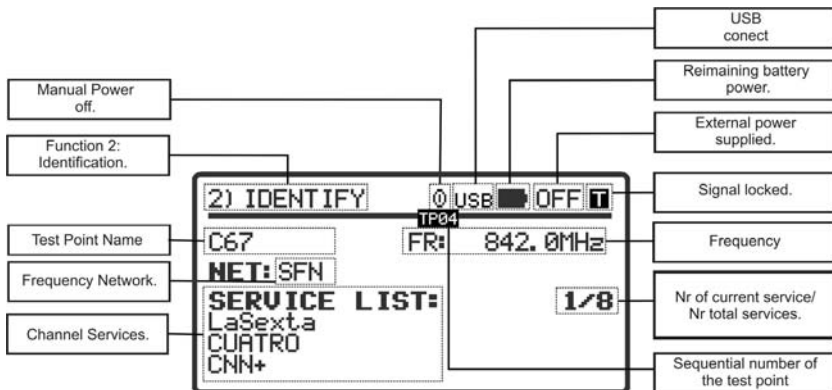

Figure 13.- IDENTIFY function.
- 5.- When this information is detected, it will be shown on the display. Sometimes this could cause a reduction in the amount of identifying text characters, in order to adjust them to the screen size (Figure 13.-).